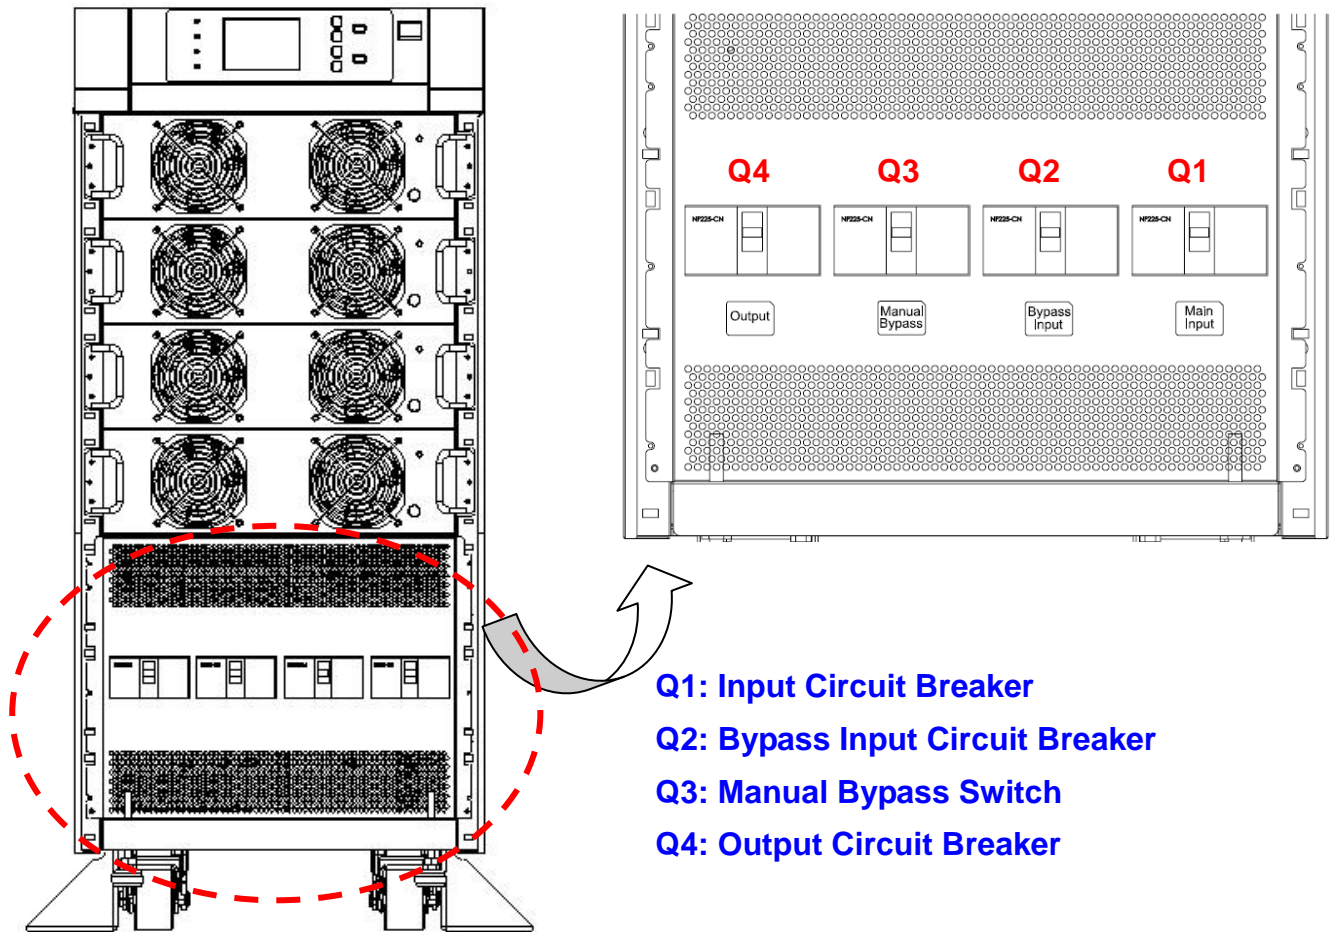

Fig. 4-2 Circuit Breaker
5. Confirm if the input and bypass input circuit breakers (Q1 and Q2) are cut off (Refer to Fig. 4-2).
1. Confirm if the input and bypass input breaker (Q1 and Q2) are cut off (Refer to Fig. 4-2).